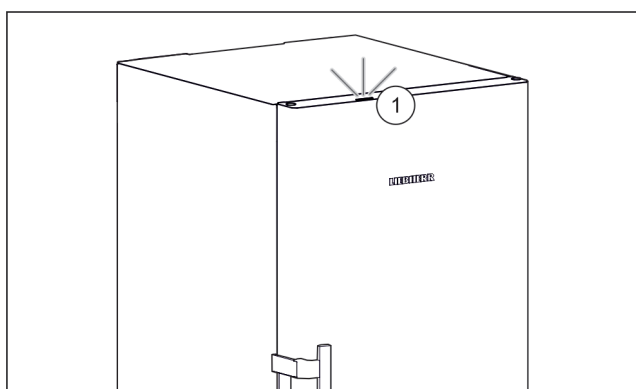

Fig. 36 Active status light when the door is closed
- ▷ Status light Fig. 36 (1) is activated.